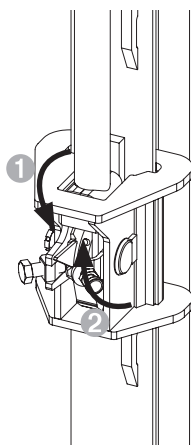

Fig. C6.11
1. Set the switch units in all the climbing heads to "Climbing the platform" (Fig. C6.11)